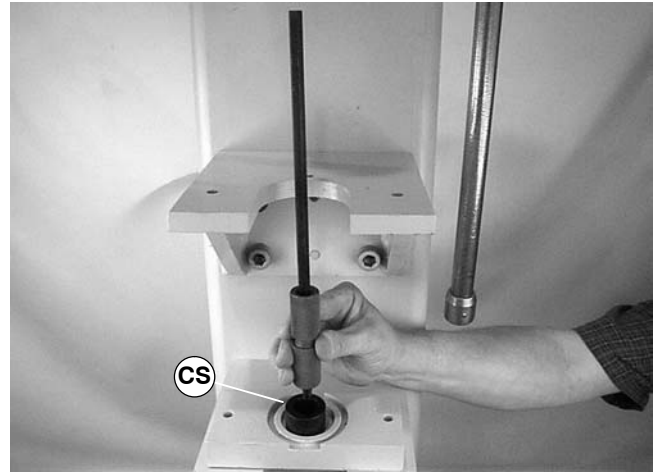

Figure 50
4. Orient bearing anvil/sleeve removal tool (part # 25-09*) (CS of Figure 50) with cavity facing up and place pulley onto tool.